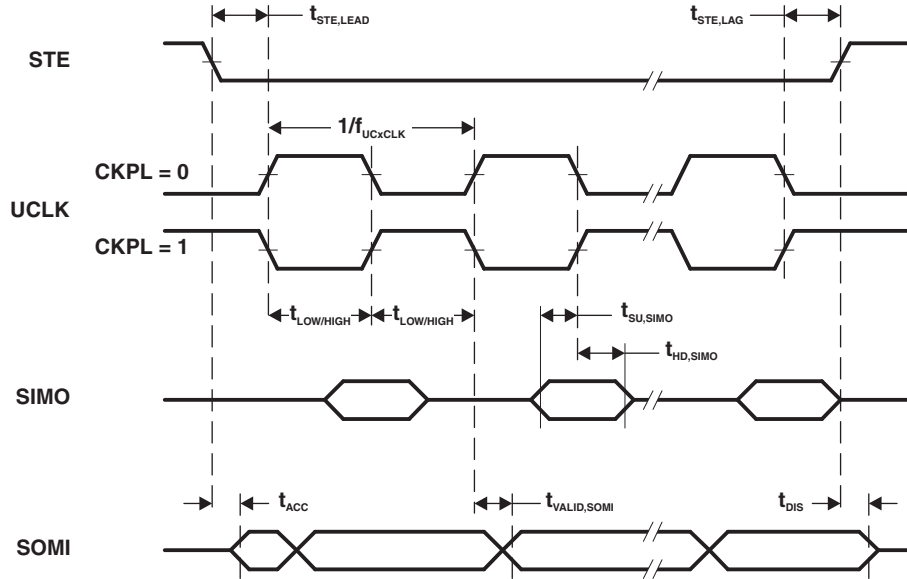
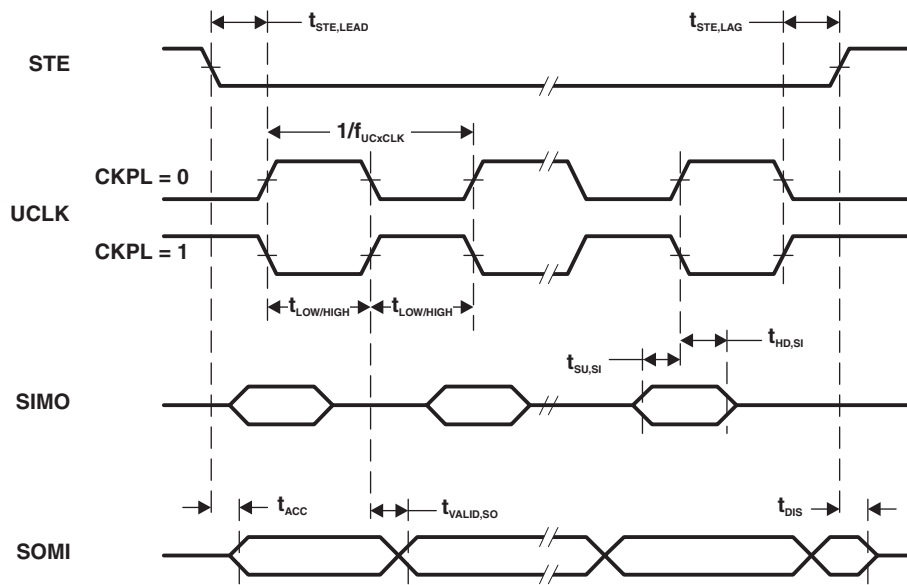

Figure 5-14. SPI Slave Mode, CKPH = 0
Figure 5-15. SPI Slave Mode, CKPH = 1
(1) $f_{UCxCLK} = 1/2t_{LO/HI}$ with $t_{LO/HI} \geq \max(t_{VALID,MO(Master)} + t_{SU,SI(eUSCI)}, t_{SU,MI(Master)} + t_{VALID,SO(eUSCI)})$.For the master parameters $t_{SU,MI(Master)}$ and $t_{VALID,MO(Master)}$, see the SPI parameters of the attached master.(2) Specifies the time to drive the next valid data to the SOMI output after the output changing UCLK clock edge. Refer to the timing diagrams in Figure 5-14 and Figure 5-15.(3) Specifies how long data on the SOMI output is valid after the output changing UCLK clock edge. Refer to the timing diagrams in Figure 5-14 and Figure 5-15.